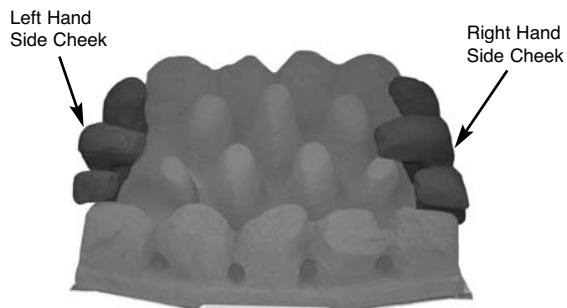

Fig. 22
4. Place the side cheeks into position, making sure they are positioned either side of the fuel bed and the overhang is at the front. The outside edge should be in contact with the radiant box ceramic liner. Ensure that the lower part of the side cheeks sit on the front coal and are in front of the rear coal (Fig. 22).